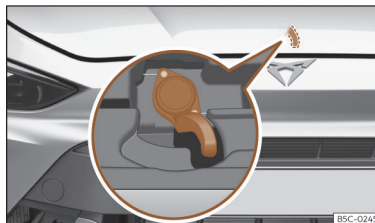

Fig. 221 Lever under the bonnet.
- To lift the bonnet, press towards the left on the lever located under the bonnet, in the centre >>> **Fig. 221** .